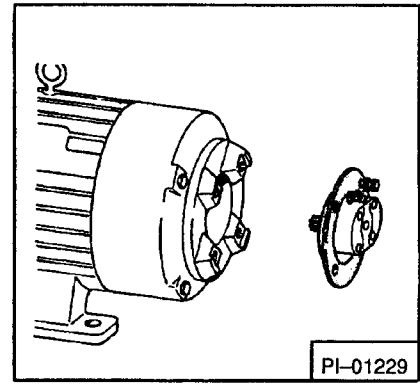

Fig. 4-48 Removing Pump and Plate
1. Remove hydraulic pump and pump holding plate from motor housing (Fig. 4-48).
18. Install hydraulic pump on holding plate (Fig. 4-48).